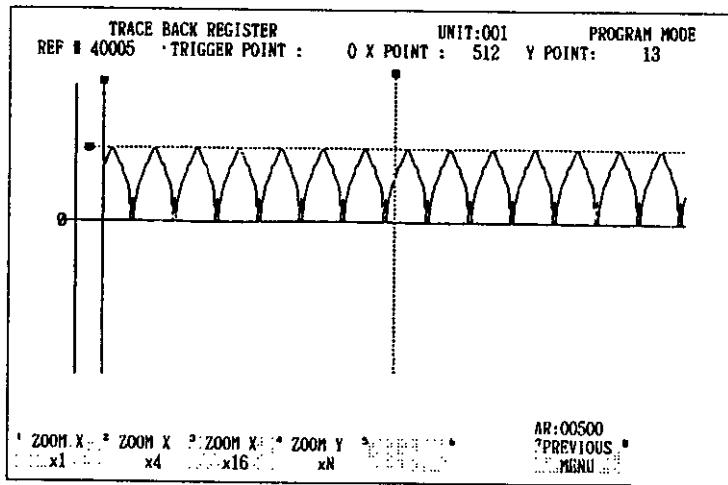

Fig. 3.246
2. The dotted line **O** indicates the moving cursor in the horizontal direction, and the dotted line **S** indicates the moving cursor in the vertical direction. The values at the "X POINT" and "Y POINT" displays indicates their coordinates, respectively. (See Fig. 3.246.)